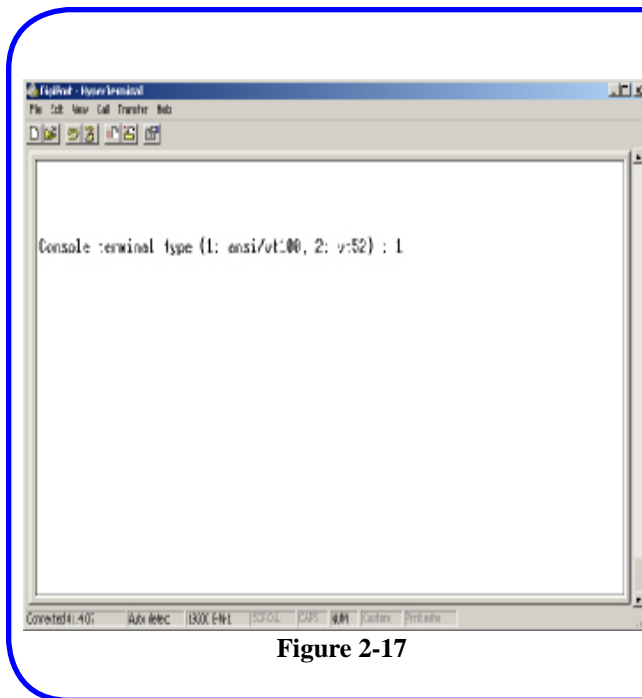

Figure 2-17
36. Wait until the HyperTerminal screen, is re-displayed. **Figure 2-17**